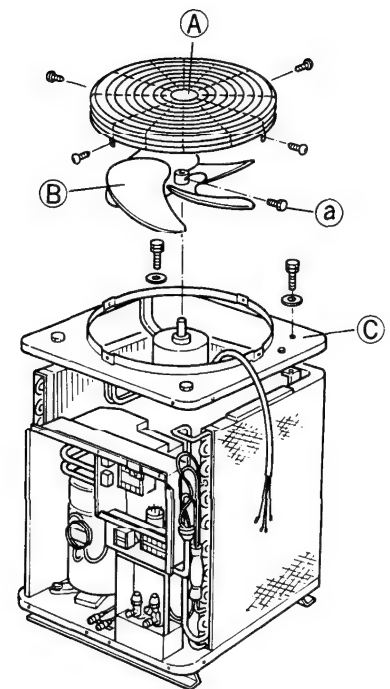

Fig.14
- ① Remove the guard (A) first, and then remove the bolts (a) of the propeller fan (B) to remove the propeller fan by lifting it up.
- ② Remove the fan motor wire from the electrical component box, and remove the top cover (C) with the fan motor fixed to the top cover. Fig. 14.